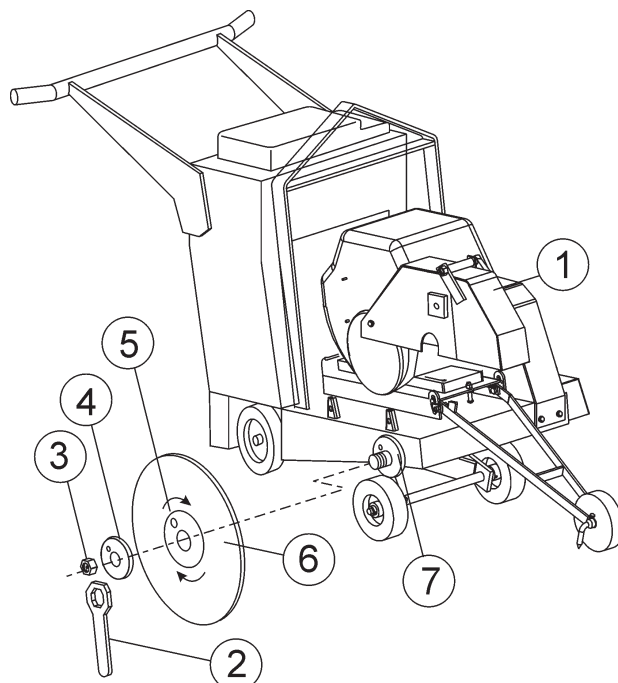

Figure 12. Diamond Blade Placement
- Reference Figure 12 (Diamond Blade Placement) when removing or installing the diamond blade.
2. **Blade Nut Wrench** – Remove the blade nut wrench (3) from the tool holder and unscrew the blade shaft nut (right-side). This nut **loosens clockwise** and **tightens counterclockwise**.
3. **Blade Nut** – Remove the blade nut (4). For reassembly, **DO NOT** over tighten the blade nut against the outer flange. Tighten blade nut approximately 45-50 ft-lbs/62-69 N/m.
4. **Outside Blade Flange (Collar)** – Ensure that the flange face is clean and free of debris and is placed flush against the diamond blade (7). Check that the drive pin goes through the blade pin hole (6) and seats properly into the inner flange (8).